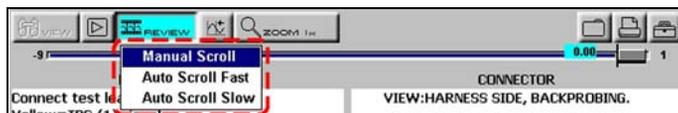

Figure 4-24 Sample scroll options
- With the **REVIEW** button selected, press **Y/✓** again to display the menu of scroll options. (Figure 4-24)